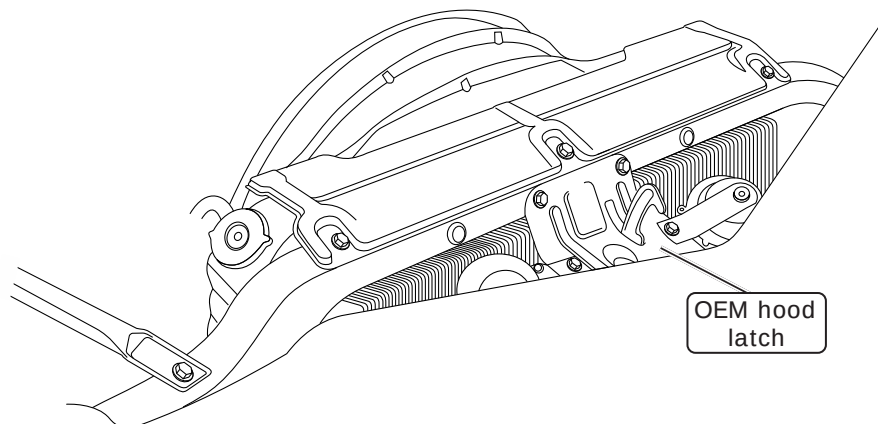

Figure 1
1. Remove OEM hood latch assembly (See Figure 1, below).